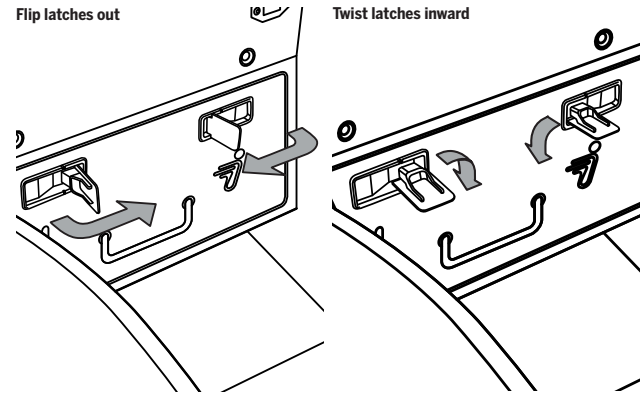

Figure 37: Flip out and twist the Battery Module Latches
2. Flip out and twist the latches as shown in **Figure 37**.